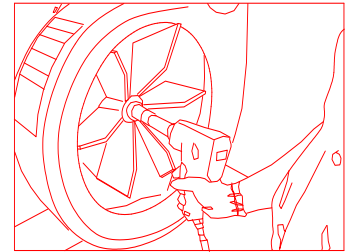

Fig. 7
2. Disconnect the negative battery cable (black) from the battery (item 12).
5. Remove the intake housing assembly (item 33) using 9/16" socket and socket wrench to remove (item 12) locknuts (item 47). Be careful to place intake assembly to the side without putting excess strain on safety switch wire harness.
6. Remove impeller bolt and lock washer using 5/8" socket and impact wrench (see Fig. 7).